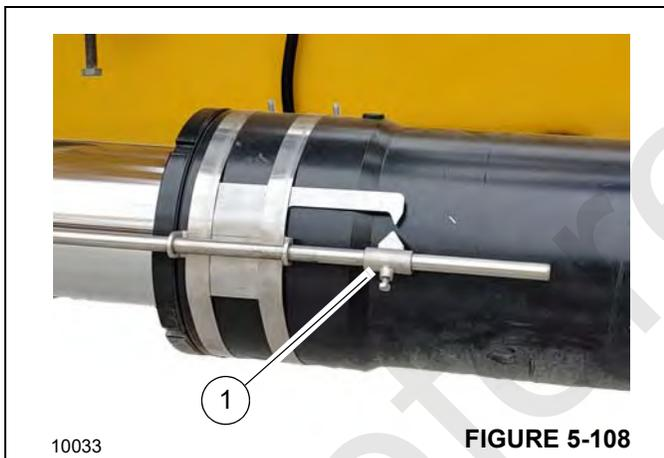

FIGURE 5-108
- If stowing an optional hydraulic boom extension, make sure the angle indicator (1), (Figure 5-108) is aligned. If the arrows are not aligned, adjust the boom extension offset as needed to align the arrows. For more information, see “Offsetting the Hydraulic Boom Extension (Optional)” on page 5-80.